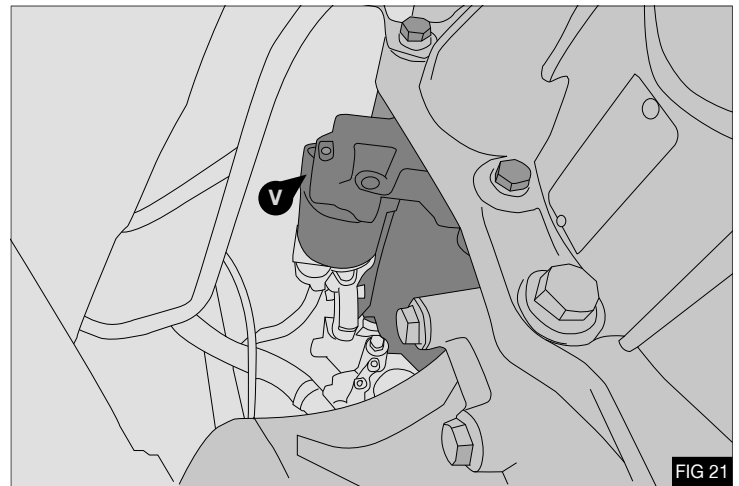

FIG 21
17. Torque bolt (9) to 35Nm / 26lbft
19. Remove 3x fasteners securing the engine starter motor (V).
- Fig 21